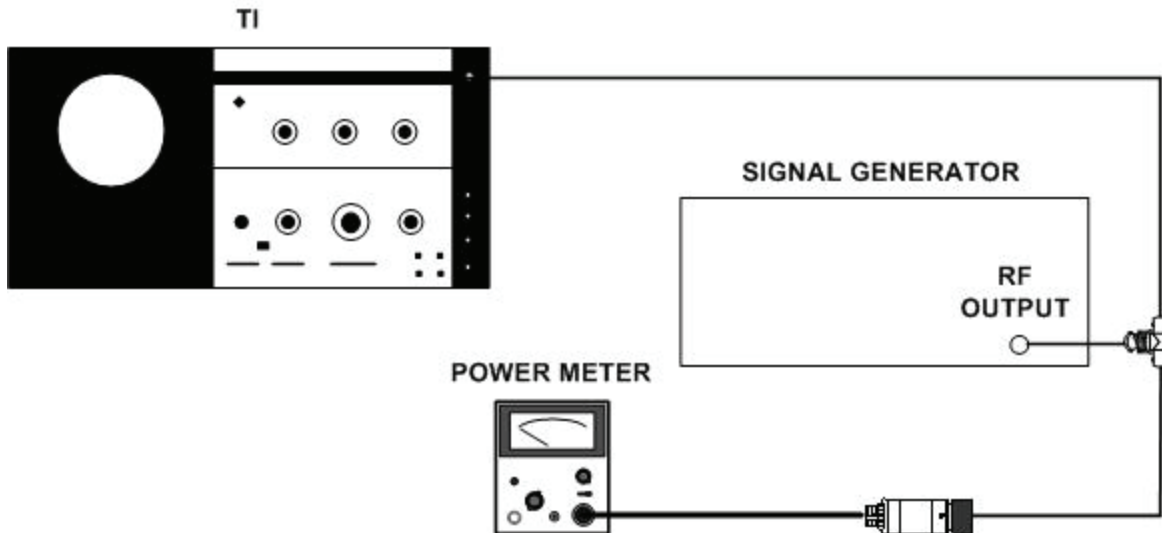

Figure 12. Frequency response - equipment setup.
- (1) Connect equipment as shown in figure 12.